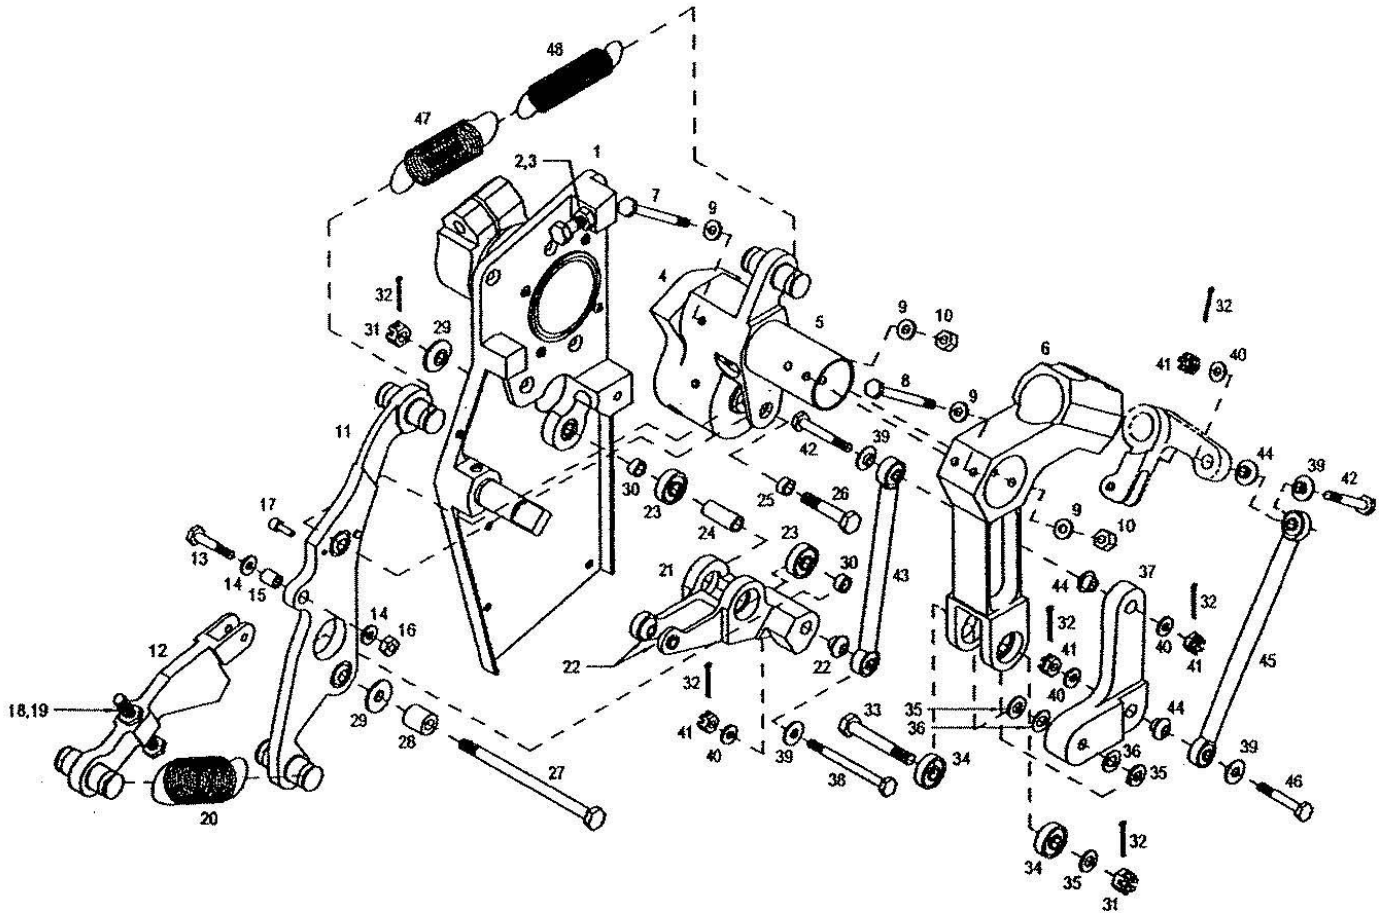

Figure 1
1. Remove springs (20, 47 & 48) from correlator.(Figure 1)
3. Remove the top bolt (42) from the throttle tie rod (43) (figure 1).
4. Remove two bolts (8) from the collective socket (6).
6. Remove the pivot bolt (27) (figure 1) and collect the shims, bushings and washers.
7. Remove the attach screw (8) (figure 3) and the adjacent bolt (not shown) from the offset tube assembly (4) (figure 1).
9. Remove the cable support assembly (10) (figure 3) from the plate assembly (1) (figure 1)
10. Remove the plate assembly (1) (figure 1) from the seat structure bulkhead. (figure 6)
20. Install the plate assembly (1) (figure 1) back onto the seat structure and install the cable support assembly (10) (figure 4) into plate assembly.